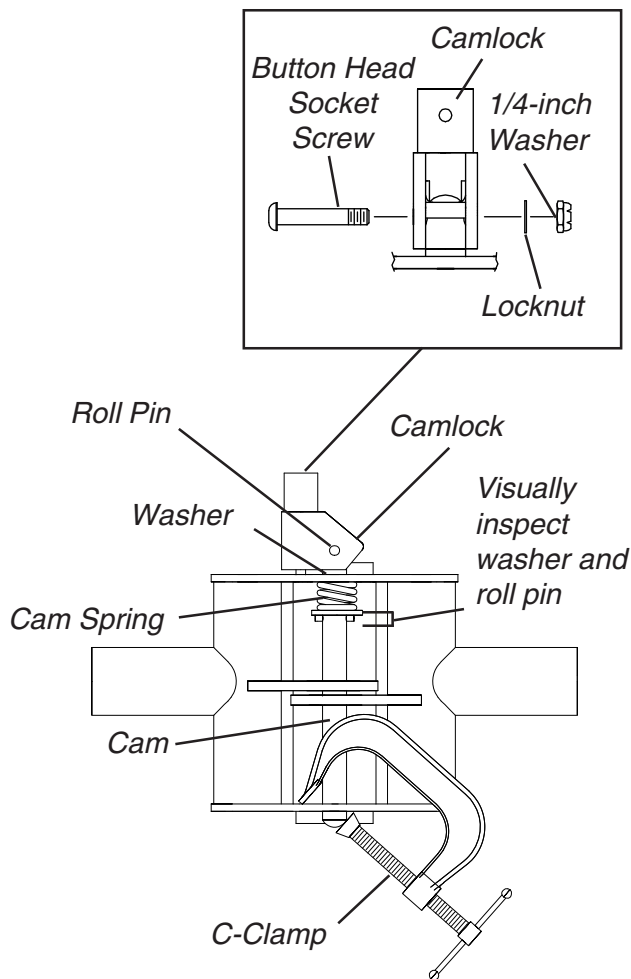

FIGURE 3 - INSTALLATION
INSTALLATION (FIGURE 3)
1. Position C-Clamp on both sides of the socket assembly with the adjustable portion of the C-clamp against the bottom of the cam as shown in FIGURE 3.